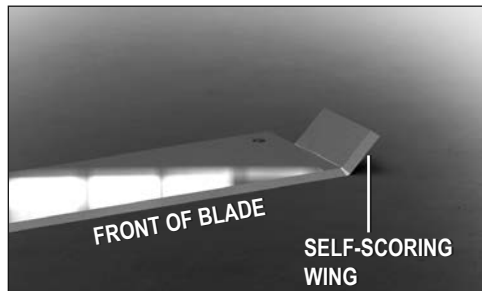

FIG. 8
**Self-Scoring Blade Sharpening (Figure 8):** It is important to keep the "wings" on these self-scoring blades sharp. Use a file on the edge; sharpen the flat part of the blade as described above.